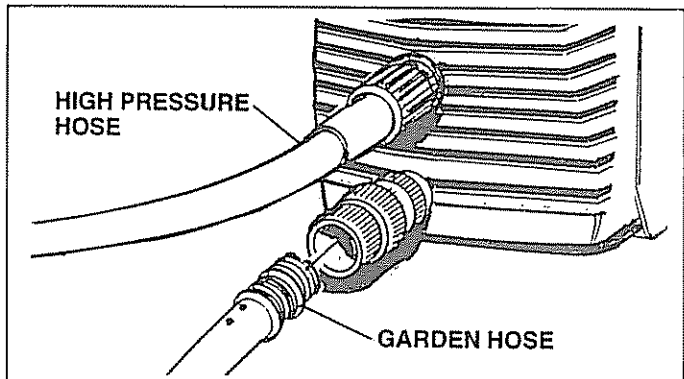

FIG. 12
- Hook up water supply (Fig. 12).
- Press trigger on gun and wand assembly to force air from high pressure hose (Fig. 12).
- Maintain trigger as shown in Fig. 12 and press ON/OFF switch.